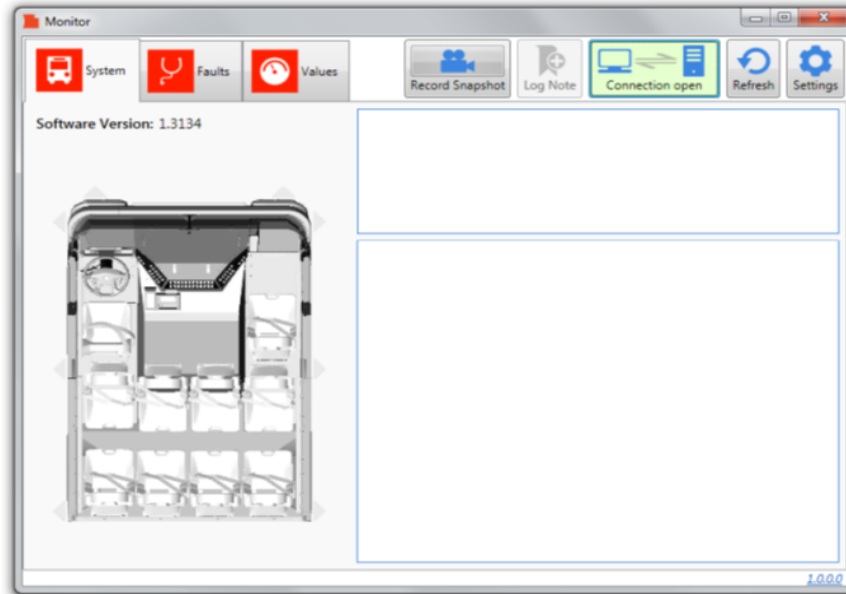

Figure 7.1
18. Once connected to the vehicle, the screen below (*figure 7.1*) will be shown. This screen is an example of a system of no active fault codes, as there is nothing highlighted in the cab diagram of the truck and there are no fault codes listed in the field on the upper right.